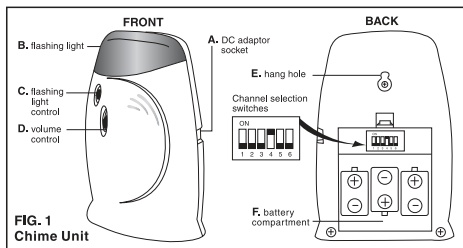
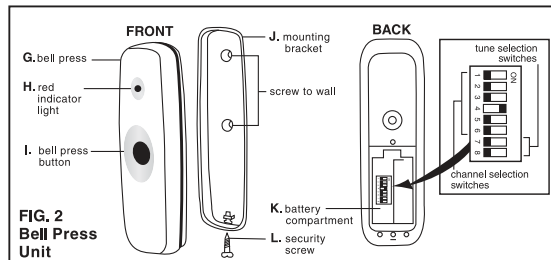

FIG. 1
FIG. 2
The Chime Unit (Fig. 1) can be powered by 3 x 'C' size batteries (not included) or can be plugged in to a powerpoint using the external DC adaptor socket (Fig. 1 A) (adaptor not included).
IF USING DC ADAPTOR: Simply plug a 9V DC adaptor into the DC adaptor socket (Fig. 1 A), plug the other end of the adaptor into any standard 240V power point and switch the power point ON.
Step 1: Remove the cover of the Battery Compartment (Fig. 1 F)
Step 2: Insert 3 x 'C' size alkaline batteries into the Battery Compartment (Fig. 1 F) ensuring the (+) end of the batteries are at the (+) in the Battery Compartment.
Step 3: Replace Battery Compartment cover. The Chime Unit is fully portable. It is free-standing and can be placed anywhere in the home. It can also be fixed to a wall by using the slotted hang hole (Fig. 1 E) on the back. The Chime Unit is not weatherproof. Do not expose to rain or immerse in water.
Step 1: Remove the security screw at the bottom of the Bell Press Unit. - (Fig. 2 L)
Step 2: Remove the Bell Press (Fig. 2 G) from the Mounting Bracket (Fig. 2 J). Open the Battery Compartment cover on the back of the Bell Press. Insert 12V battery provided into the Battery Compartment (Fig. 2 K) ensuring that the (+) end of the battery is at the (+) in the Battery Compartment. Replace Battery Compartment cover.
Step 5: Press the Bell Press Button (Fig. 2 I) to ensure that the red indicator light (Fig. 2 H) illuminates, indicating that the battery is correctly installed, and to test satisfactory operation. The Bell Press is suitable for outdoor use, however for best performance and a longer life the Bell Press should not be exposed to direct sunlight or rain.
Step 6: Secure the Mounting Bracket (Fig. 2 J) using the 2 x screws/wall plugs or double sided tape provided. To ensure that the weatherproofing is maintained, mount the Bell Press in upright position. The Bell Press (Fig. 2 G) can then be inserted into the Mounting Bracket (Fig. 2 J) and securely fastened at the bottom using the security screw supplied (Fig. 2 L).
Press the Bell Press Button (Fig. 2 I) to sound the Chime Unit. Press again to repeat the chime. The operation and range of your HPM Door Chime will depend on location, temperature and battery condition.
Inside the Battery Compartment of both the Bell Press (Fig. 2 K) and the Chime Unit (Fig. 1 F) there are 6 Channel Selection Switches. It is essential that the Channel Selection Switches be in the same position on both units for them to recognise each other. In the event that your Door Chime Unit sounds without your Bell
Step 1: On the Bell Press Unit - The Channel Selection Switches are the first 6 switches located inside the Bell Press Battery Compartment (Fig. 2 K). Remove the Bell Press (Fig. 2 G) from the Mounting Bracket (Fig. 2 J). Open the Battery Compartment cover on the back of the Bell Press. Select a different channel by moving one or more of the 6 Channel Selection Switches to the ON position.
Step 2: On the Chime Unit - The Channel Selection Switches are located inside the Battery Compartment (Fig. 1 F). Move the Channel Selection Switches so that they correspond exactly to the Channel Selection Switch positions you have set on the Bell Press Unit. Test to ensure correct operation.
Inside the Battery Compartment of the Bell Press Unit (Fig. 2 K) there is a row of 8 switches. The last 2 switches are for Tune Selection and represent the 2 tunes available - Ding Dong or Westminster. To change the tune, simply select the other Tune Selection Switch.
The Volume Control (Fig. 1 D) enables you to adjust the volume of your HPM Door Chime (HIGH or LOW) or turn it OFF completely.
The Flashing Light Control (Fig. 1 C) enables you to have a light (Fig. 1 B) flash when the Door Chime Unit is activated. This can be in addition to or instead of the tune sounding. Simply position the Flashing Light Control (Fig. 1 C) in either the ON or OFF position. Perfect for hearing impaired, families with children, shift workers not wanting to be woken or if there is loud background noise eg. when vacuuming.